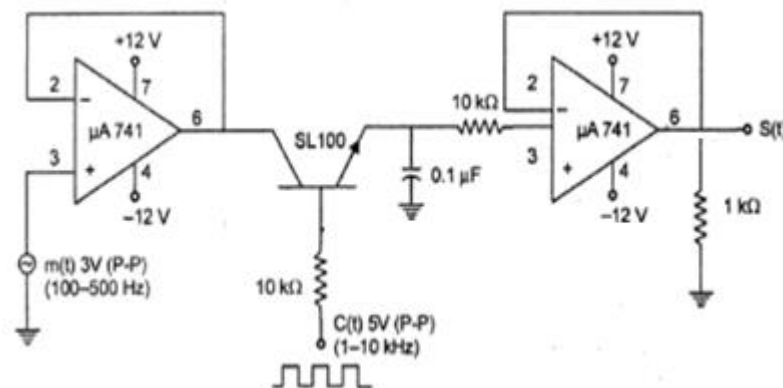

Fig: 5.1 Sampling Circuit using transistor
1. The circuit is connected as per the circuit diagram shown in the fig 5.1 or 5.2.